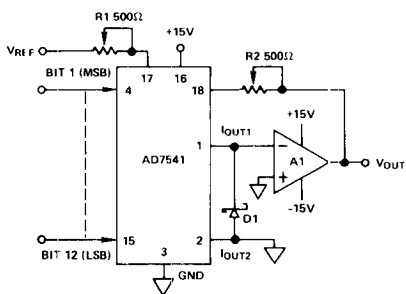

Figure 15. Unipolar Binary Operation
1. Protection diodes as shown in Figures 15 and 16.
function as in Figure 15. Network R3, R4, R5 sum  $\frac{1}{2}$ LSB of current into  $I_{OUT2}$  to ensure correct coding at zero.
Table 1. Code Table for Circuit of Figure 15.
With the AD7541 connected in its normal multiplying configuration as shown in Figure 15, the transfer function is